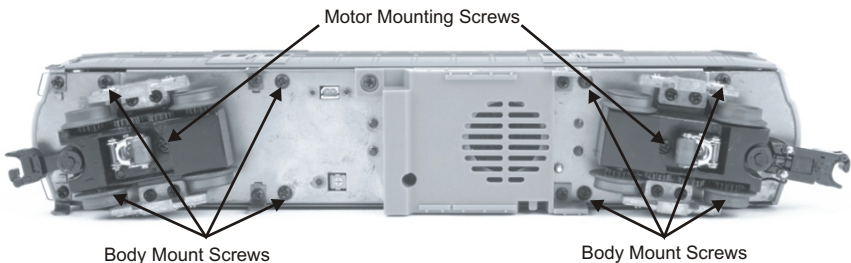

Figure 4. Body Removal Screw Locations
1. To access the gear box, remove the cab from the chassis by unscrewing the body mount screws as seen in Figure 4 and lifting the cab from the chassis.
2. Once the cab is removed, remove the trucks by unscrewing the black Phillips motor mount screw located on the underside of the drive trucks (see Fig. 4).